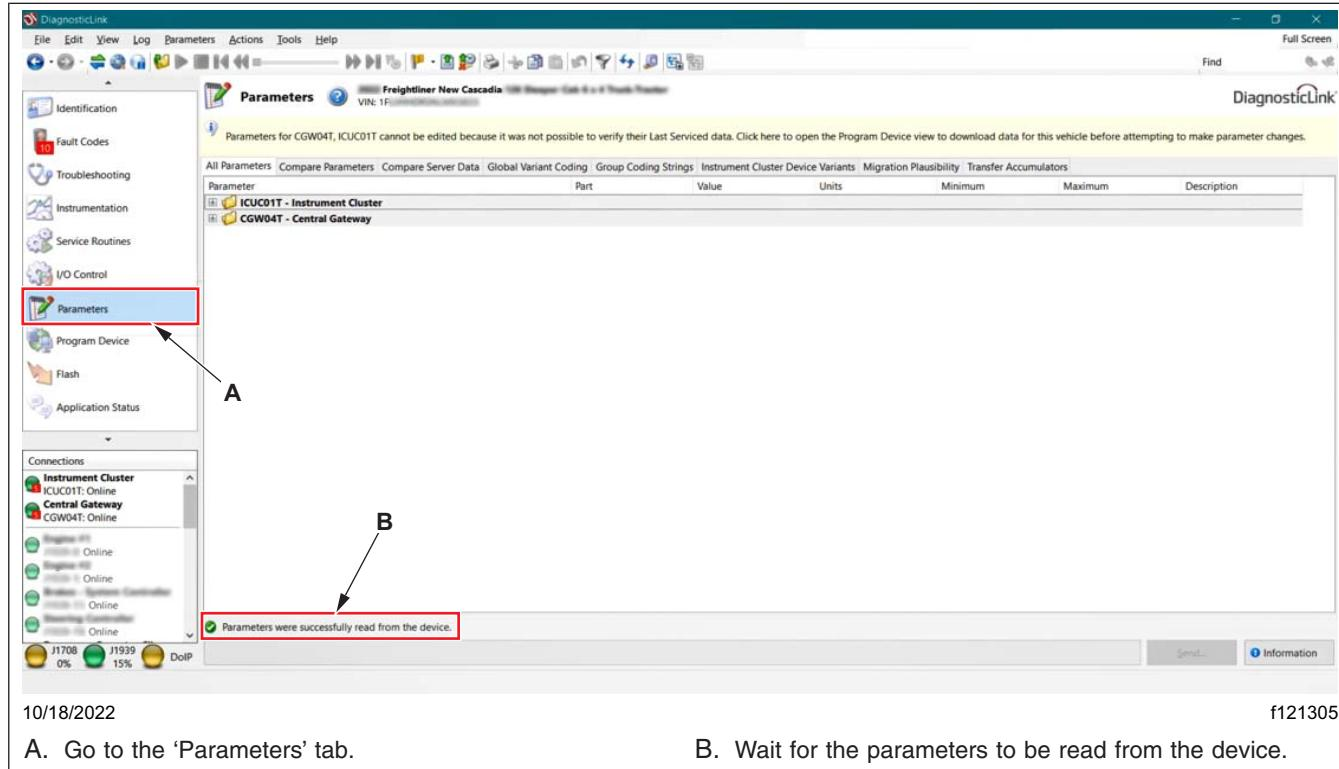

Fig. 5, Reading the ECU Parameters
16. Go to the 'Parameters' tab. See **Fig. 5**.